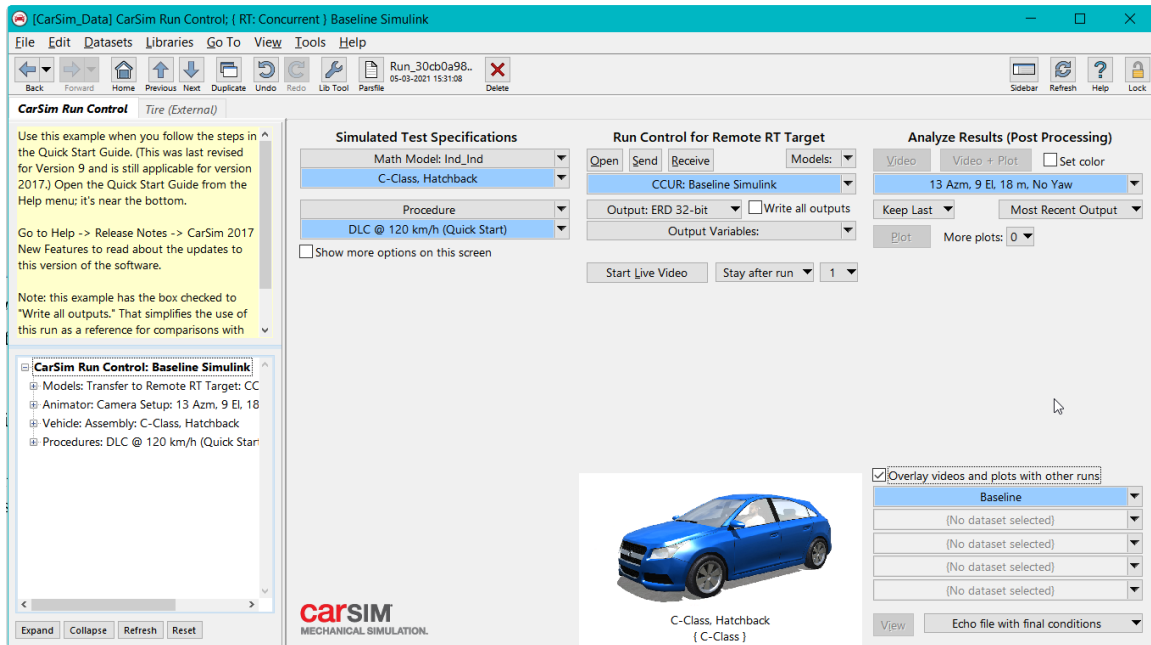

Figure 8. Run control Baseline Simulink example.
1. Start CarSim. From the **Run Control** screen, select **Datasets > RT: Concurrent > Baseline Simulink** (Figure 8).